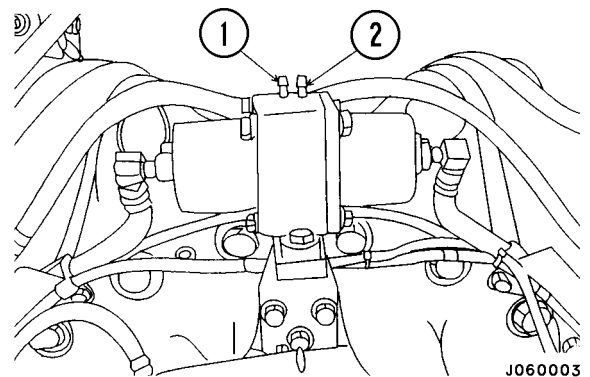

FIGURE 4-13. SLACK ADJUSTER
1. Bleed the air at the slack adjuster end first. Depress the brake pedal, then loosen air bleed plugs (1 or 2, Figure 4-13) 3/4 turns. Tighten the plug again, then release the pedal.